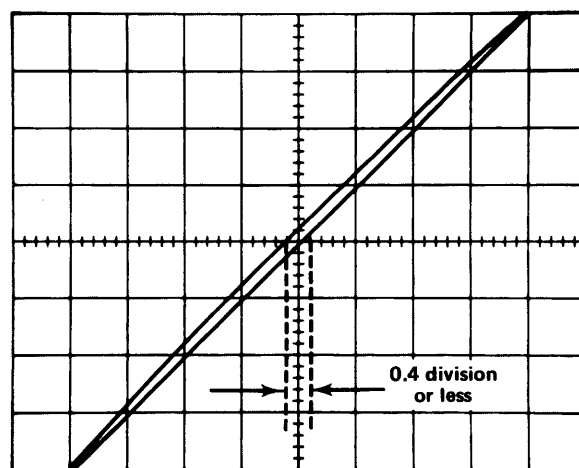

Fig. 5-1. Typical CRT display when checking X-Y phasing.
e. CHECK—CRT display for an opening at the center horizontal line of 0.4 division or less (see Fig. 5-1).